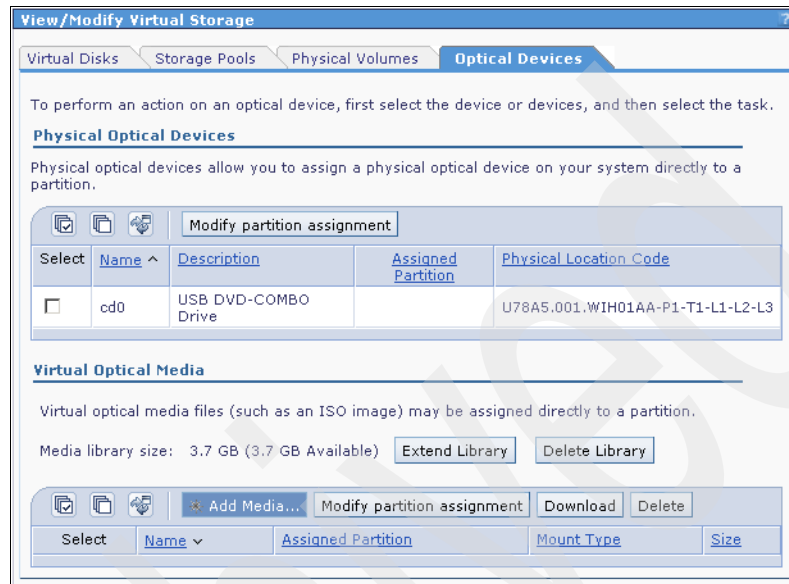

Figure 4-6 Media library - add media
- It takes a moment to create the library volume and file. After that is done, return to the panel shown in Figure 4-6. Click **Add Media** to create an image from the AIX DVD.